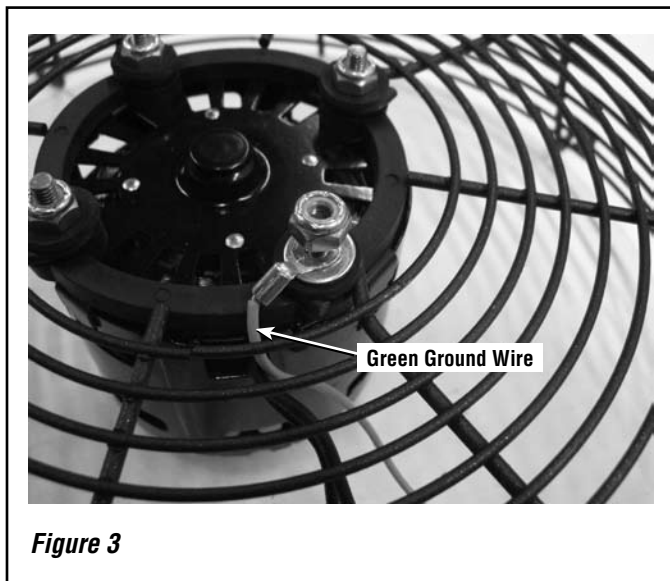

Figure 3
Step 4. Using a 3/8" end wrench, remove the ground (green) wire from the blower stud. See **Figure 3**.